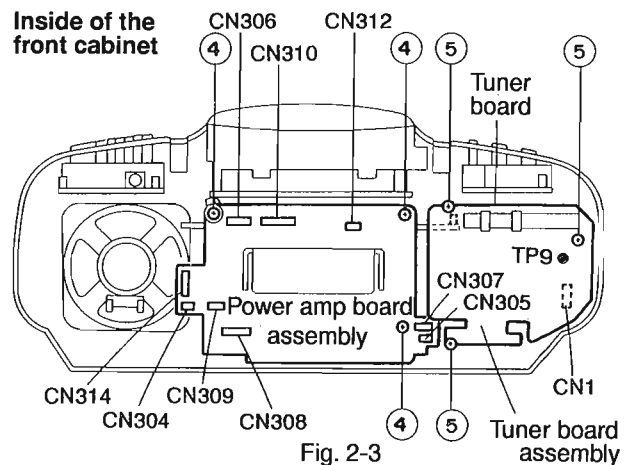

Fig. 2-3
- 1) Remove the 2 screws (1) securing the CD section.
- 2) Remove the 8 screws (2) securing the rear cabinet and handle.
- 3) Open the rear cover slightly and unplug the antenna wire from TP9 on the tuner board (Fig. 2-3).
#### ◆ Tuner board assembly (Fig. 2-3)